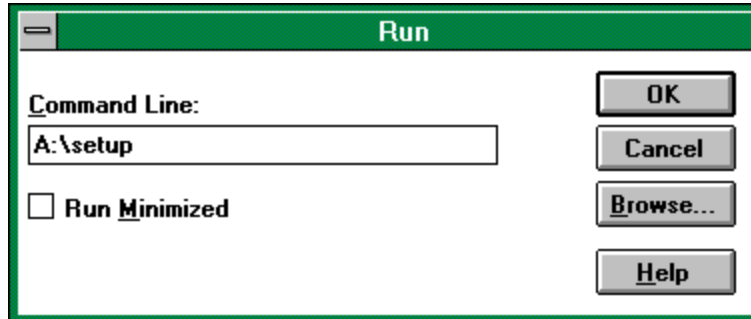

Figure 3: Run from the File menu.
1. Insert the installation disk into your floppy disk drive. Choose Run in the File menu. (See Fig. 3).
2. Type A:\ setup and hit Return or click on OK. (See Fig.3)